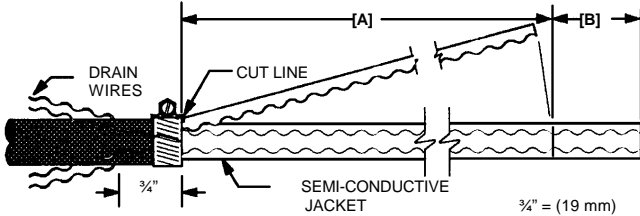

Figure 1
2. Remove drain wires from semi-con jacket for distance [A] + [B] + 3/4" (19 mm) as shown in **Figure 1** and **Table 2**. (Be sure to allow for depth of lug barrel [B].)
3. Install hose clamp at dimension [A] + [B] and cut 80% through jacket (**Figure 1**, **Table 2**).
4. Remove jacket by pulling against hose clamp (**Figure 1**). DO NOT BELL SEMI-CON JACKET. NOTE: If double-layer semi-con jacket is difficult to remove, first score it longitudinally by cutting along grooves left by drain wires.